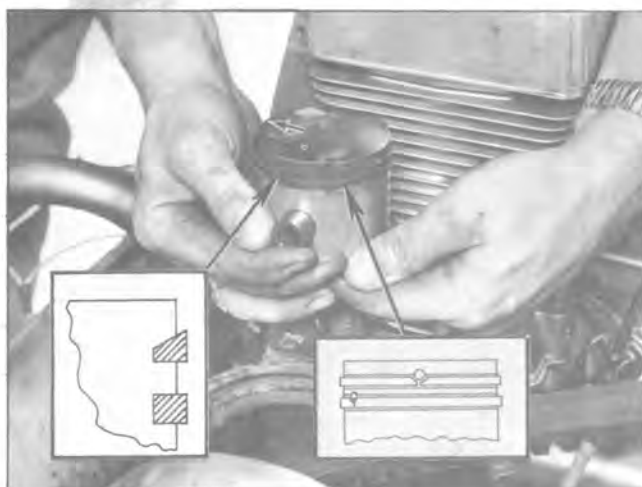

Fig. 7 — Removing/Installing Piston Pin
4. Remove cylinder assembly mounting nuts and carefully lift cylinder assembly from engine as shown in Fig. 7.